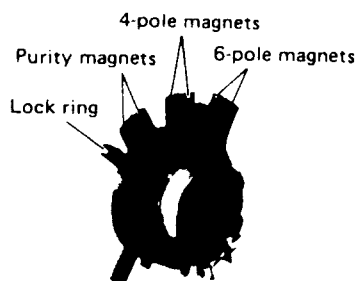

Figure 5
- (1) Tune receiver to a cross-hatch signal.
- (2) Set the CONTRAST control (VR292) to minimum. If necessary, adjust the BRIGHTNESS control (VR291).
- (3) Adjust the 4-pole magnets to converge red and blue vertical and horizontal lines at the center of the screen (Figure 5).
- (4) Adjust the 6-pole magnets to place the red and blue converged lines on the green line.
- (5) If necessary, repeat steps (3) and (4) above.